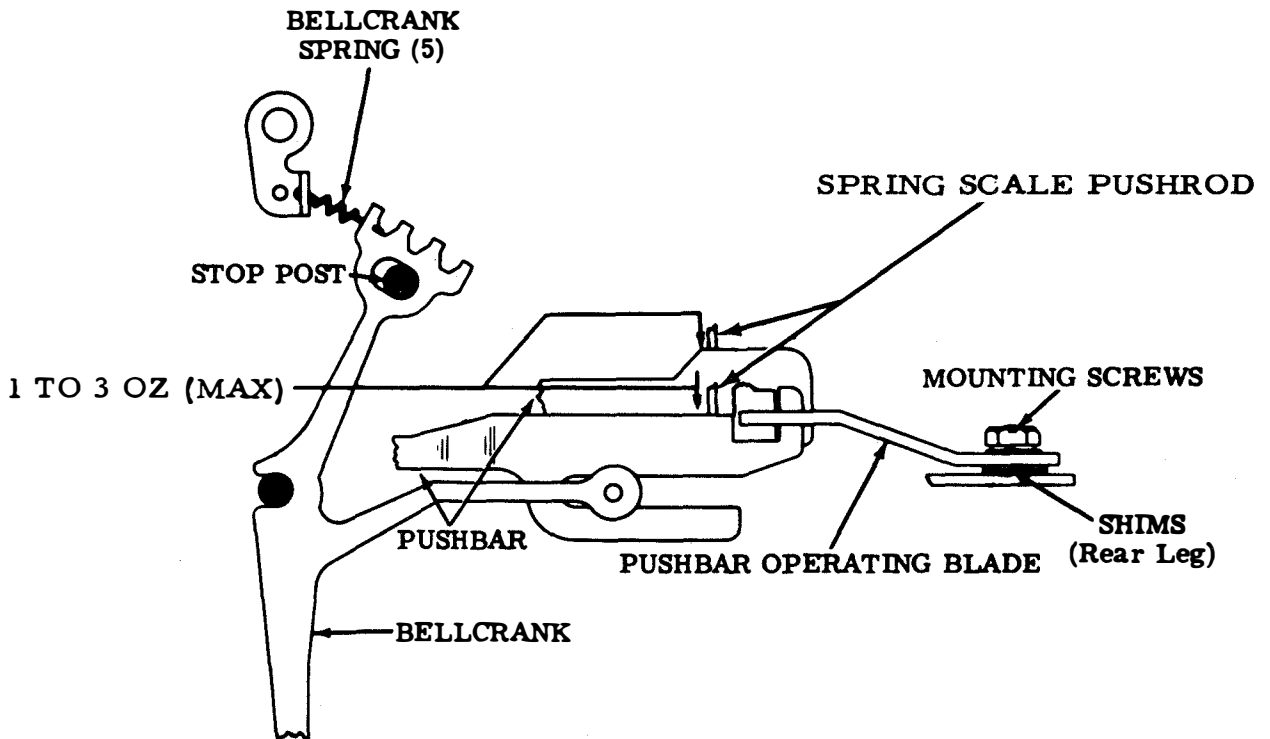

Figure 6-67. Pushbar Operating Blade (Preliminary) and Bellcrank Springs
(a) Refer to figure 6-67.
- (a) Refer to figure 6-67.
(3) Shoulder Clearance. Adjust as follows: